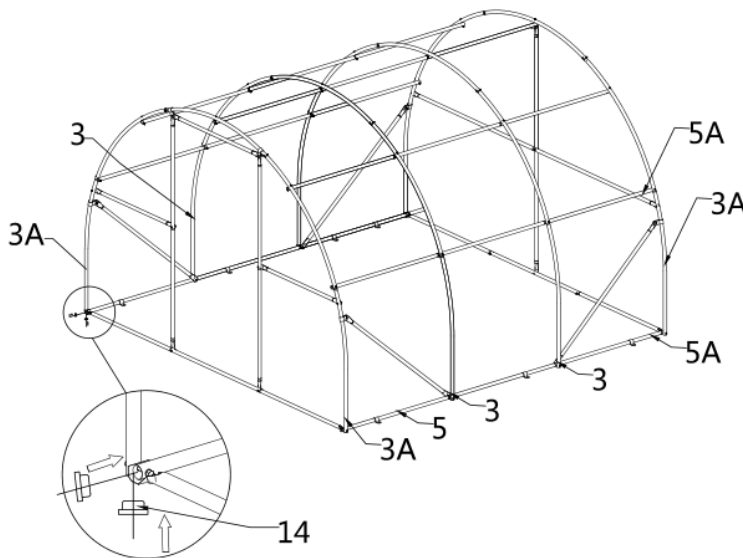

Figure 10
- The ends of rafters (#3A) and (#3) at the lower part of the truss, as well as the outer roof purl in (#5) and (#5A) at the front and rear truss, shall be provided with waterproof plugs. (refer to figure 10)
- (22) Water plug (#14)